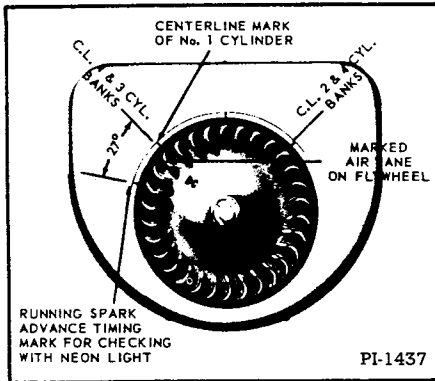
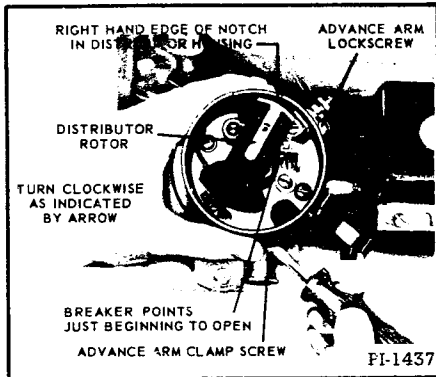

Fig. 189 Timing Marks
Fig. 190 Loosening Advance Arm Clamp
Remove the screen from the flywheel air intake opening by removing the screws holding the screen in place. This will expose the timing marks on the flywheel shroud, also the vane (on the flywheel) marked with an "X" and the letters "DC" (Figure 189). Now, follow this procedure:
3. With the engine operating at 1800 RPM or over, allow the flash from the light to illuminate the whitened vane. At the time of the flash, the leading edge of the vane should line up with the running spark advance timing mark on the flywheel shroud (Figure 189). If it does not, loosen the advance arm clamp screw (Figure 190) and turn the distributor body slightly clockwise or counterclockwise until the advance timing mark and the white vane coincide. Be sure to tighten the advance arm clamp screw carefully.